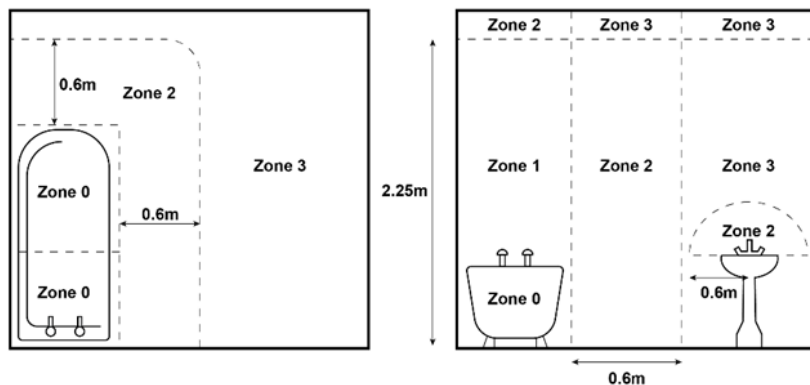

Figure 3
- Do not install NEO / NEO WIFI into a towel rail fitted in ZONE 0 or ZONE 1 (Zone definition IEC 60364-7-701 in Figure 3).